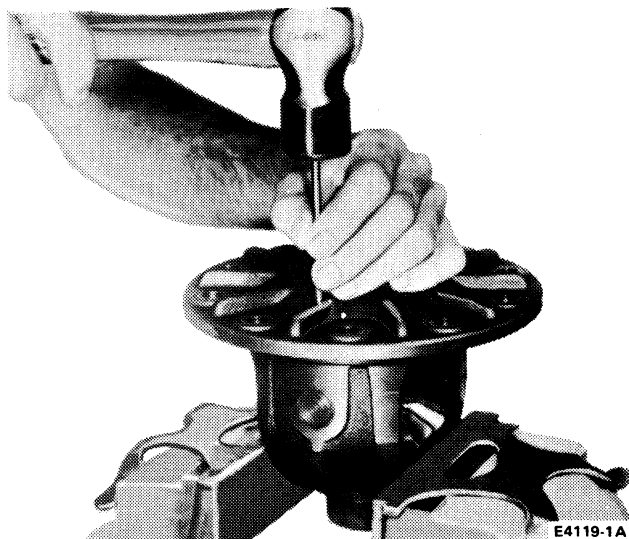

FIG. 25 Removing Lock Pin
- Place differential case in vise and drive out lock pin that retains the pinion mate shaft to case (Fig. 25).